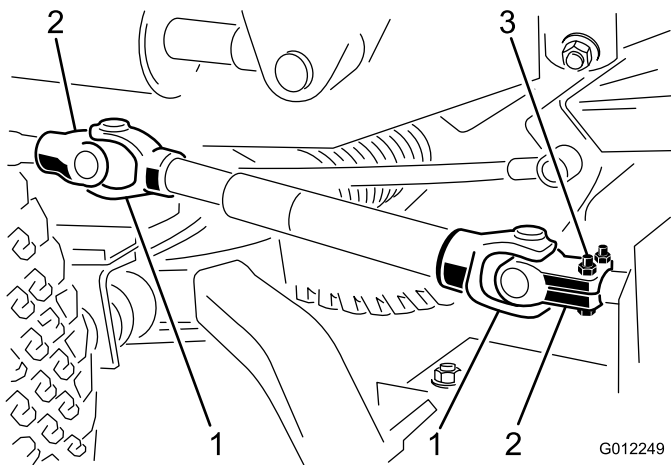

Figure 11
2. Slide the yoke onto the shaft and secure them together with a roll pin and 2 capscrews (5/16 x 1-3/4 inches) and locknuts (5/16 inch) (Figure 11).